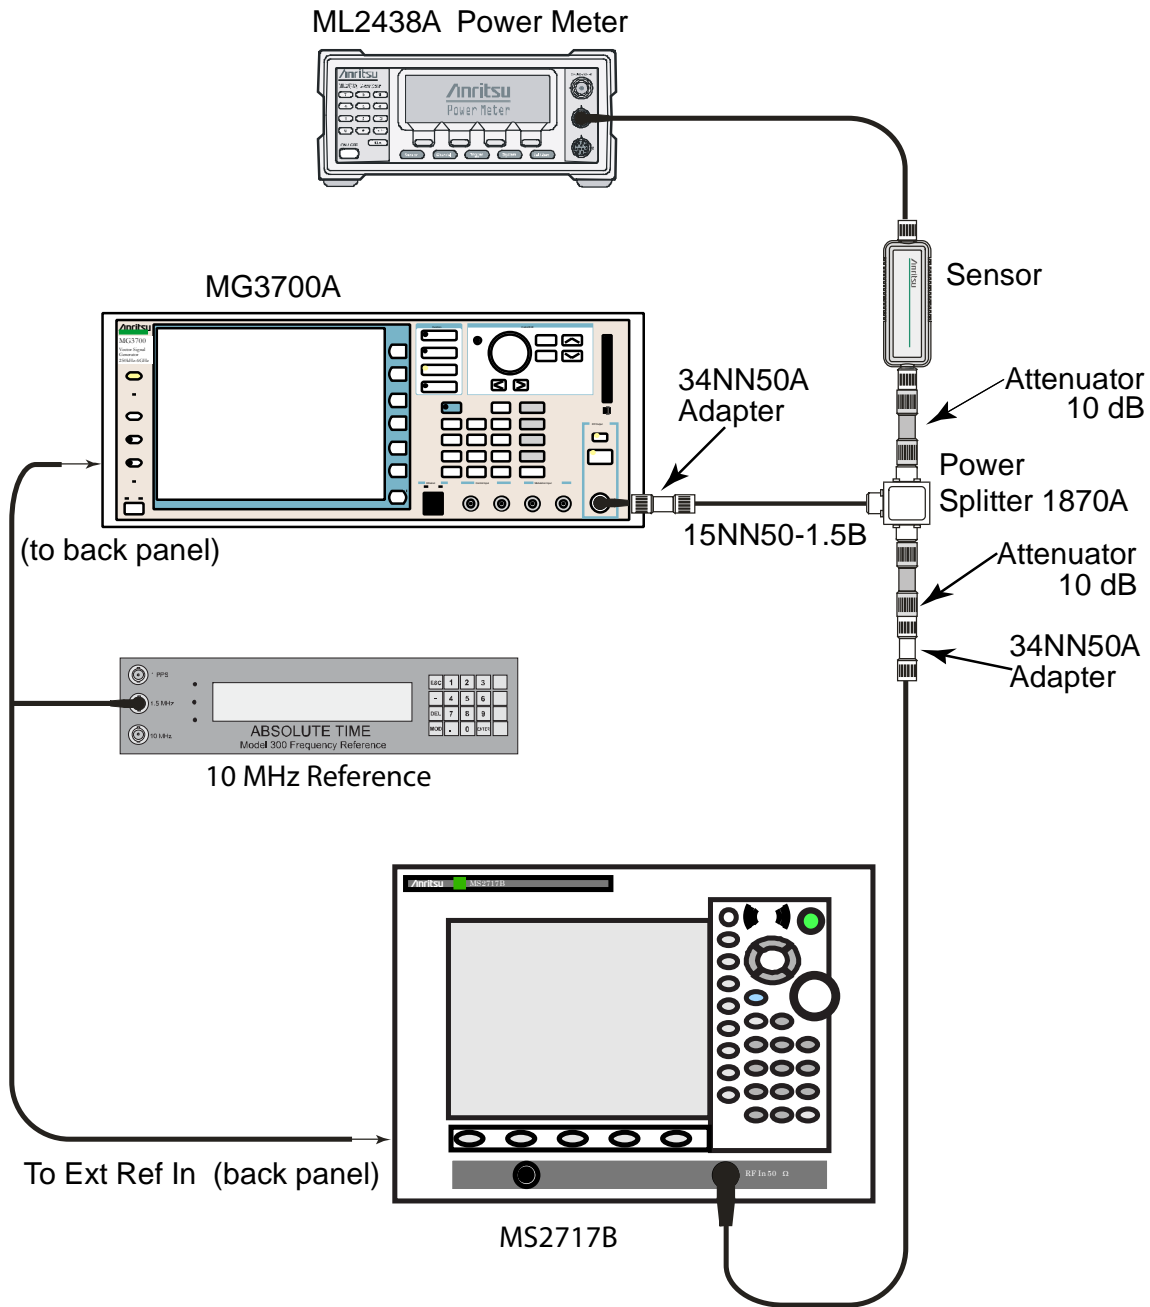

Figure 3-5. WCDMA OBW Verification Test Setup
3. Connect the MG3700A, splitter, attenuator, sensor, and power meter as shown in Figure 3-5.
4. Press the **On/Off** key to turn on the MS2717B and wait until the measurement display appears. Then press the **Shift** key then press the **Mode** (9) key to activate the mode selection menu.
6. Press the **Shift** key, the **Preset** (1) key, and then the Preset soft key.
3. Connect the MG3700A, splitter, attenuator, power meter, and sensor as shown in Figure 3-5 on page 3-16.
3. Connect the MG3700A, splitter, attenuator, power meter, and sensor according to Figure 3-5, “WCDMA OBW Verification Test Setup” on page 3-16.